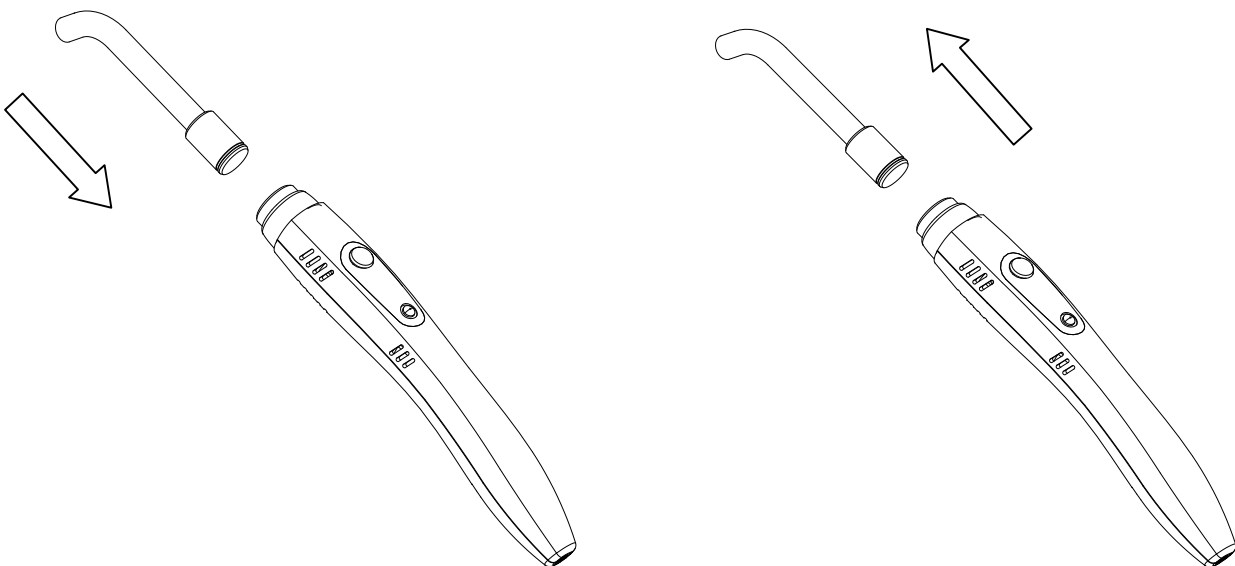

Figure 3 Insert light guide
4. Autoclave the fiber optic light guide prior to first use. Attach the light guide to the hand piece as shown in Figure 3. Please refer to Chapter 7 to get more information of optional light guides.